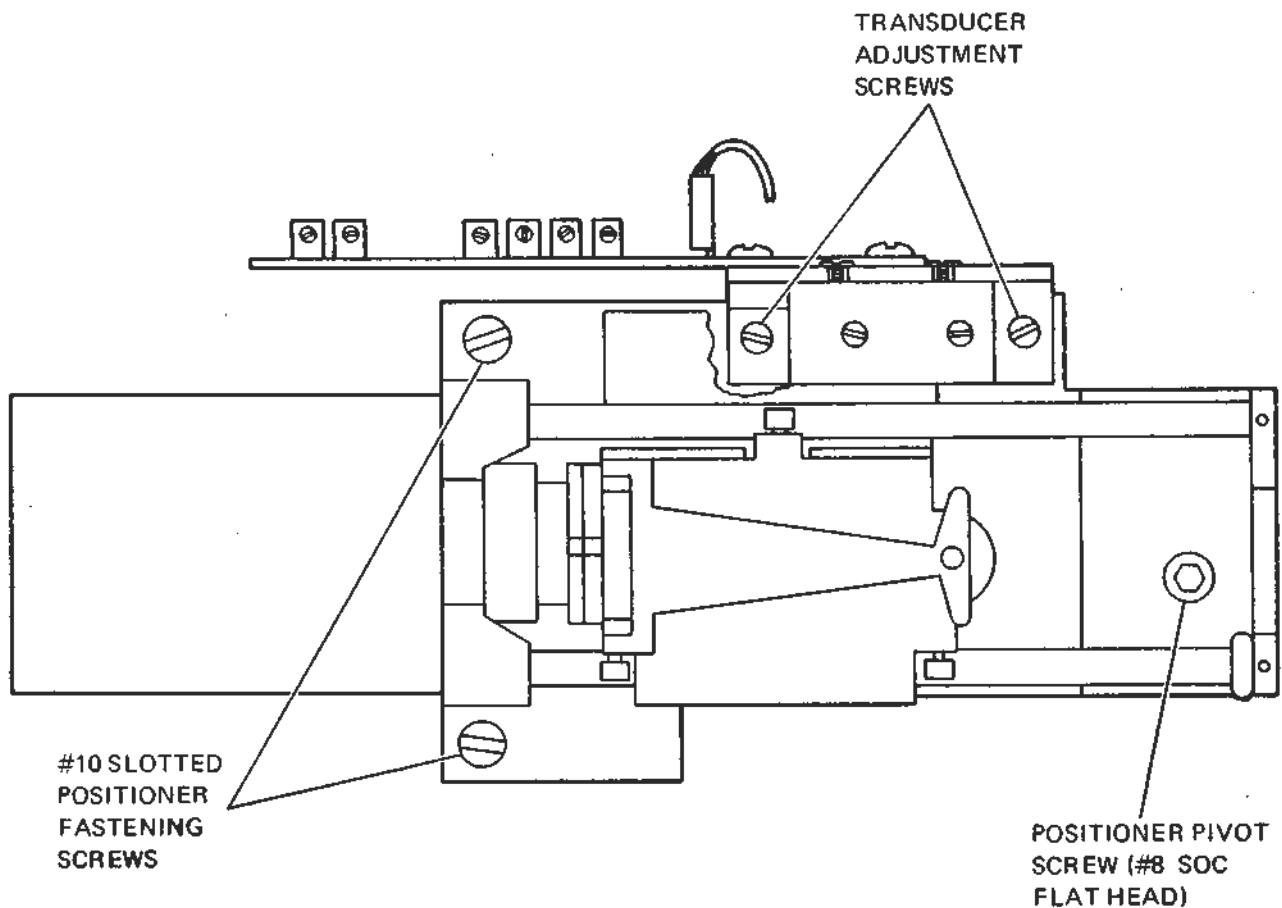

Figure 2-9. Positioner Track and Azimuth Adjustment (Side 0)
- b. Slacken two screws securing transducer assembly to positioner frame, just sufficiently to allow the assembly to slide within the range of the adjustment slots. (Figure 2-9.)
- l. If there is a difference in time greater than $\pm 20 \mu\text{sec}$, slacken two No. 10 slotted screws holding positioner frame to deck plate. (Figure 2-9.)
- d. Remove two No. 10 slotted screws and one No. 8 Allen flat head screw securing positioner assembly to deck plate and remove positioner assembly. (Figure 2-9.)